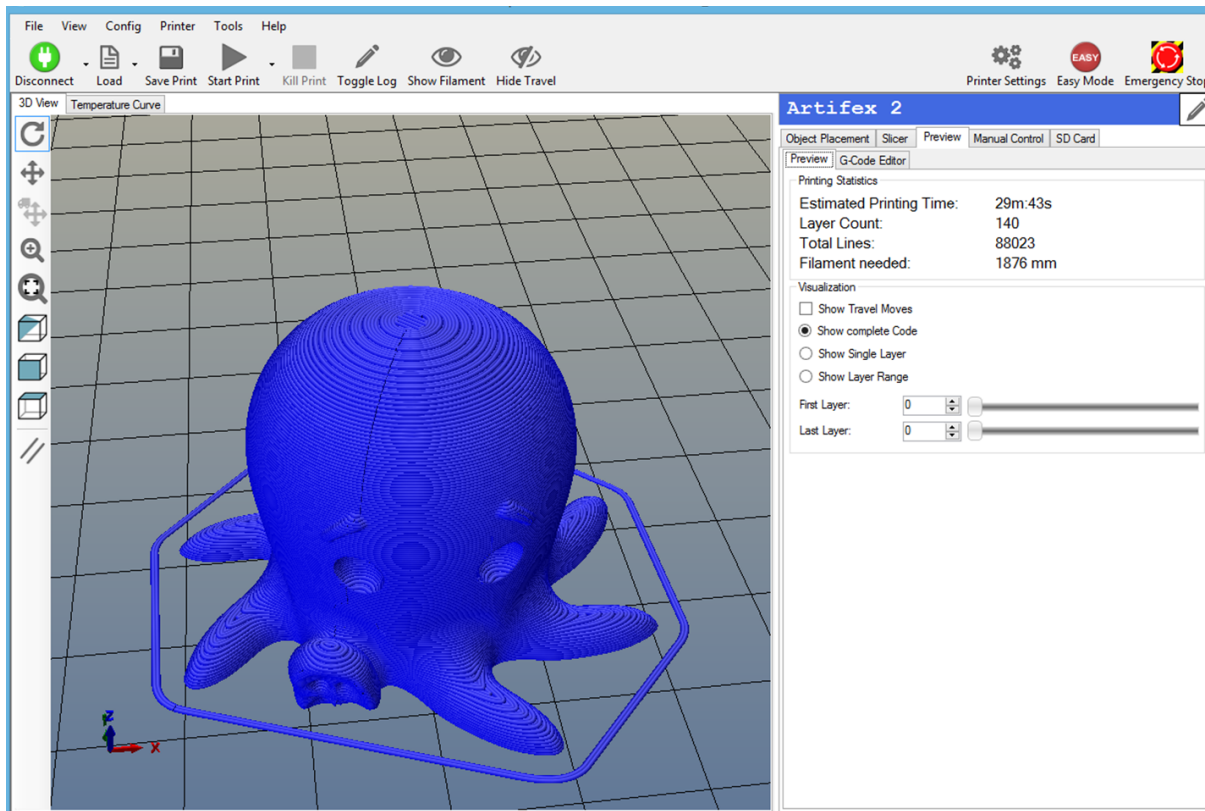

Figure 3.6: Repetier-Host interface at the completion of model slicing
- Click the “Slice with Slic3r” button. Once the slicing is completed, the Repetier-Host will look like what shown in Figure 3.6, which is the same as what you saw in the last chapter when you directly loaded a pre-generated G-code file.